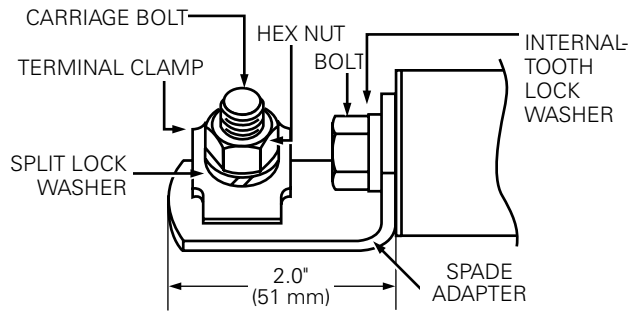

Figure 9. Parallel-groove terminal.
3. Assemble carriage bolt, terminal clamp, split lock washer and hex nut on the spade adapter as shown in Figure 9.